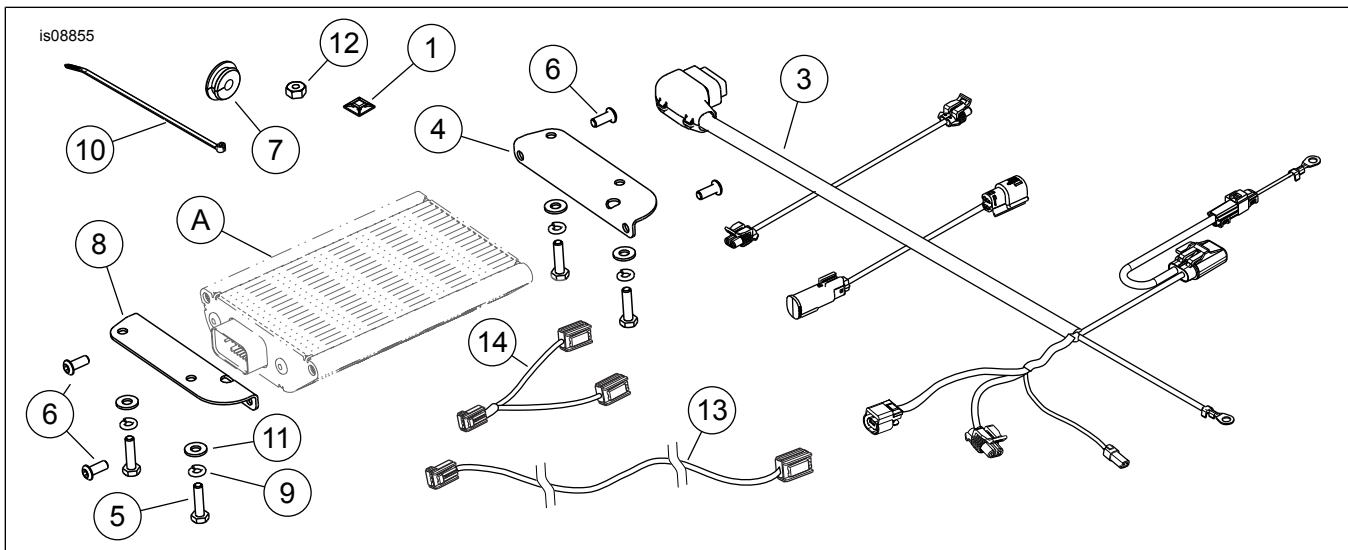

Figure 9. Service Parts, Amplifier Installation Kit
1. Clean the capacity label inside the Tour-Pak with a 50-50 mixture of isopropyl alcohol and distilled water. See Figure 9. Apply the **new** load limit label (2) covering the original label. Note the revised load limit due to the amplifier installation.
2. Install the brackets (4 and 8) to amplifier (A) with screws (6). Alternately tighten to 9.5–12.2 N·m (84–108 **in-lbs**).
These holes are for leads [36TB] and [37TB] of the amplifier harness (Figure 9, Item 3), which connect during installation of the Boom! Audio Stage II Tour-Pak Speaker Kit.